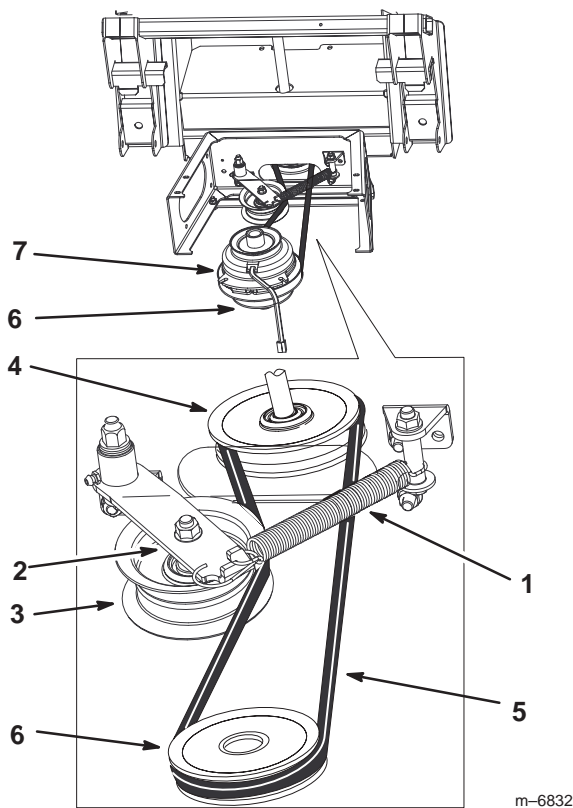

Figure 16
2. Install the bagger belt onto the clutch drive pulley (Fig. 16).
3. Route the bagger belt onto the idler pulley (Fig. 16).
4. Route the bagger belt through the hole in the rear bumper (Fig. 16).
5. Route the bagger belt onto the bagger pulley (Fig. 16).
6. Connect the spring loop to the hook on the idler arm (Fig. 16).